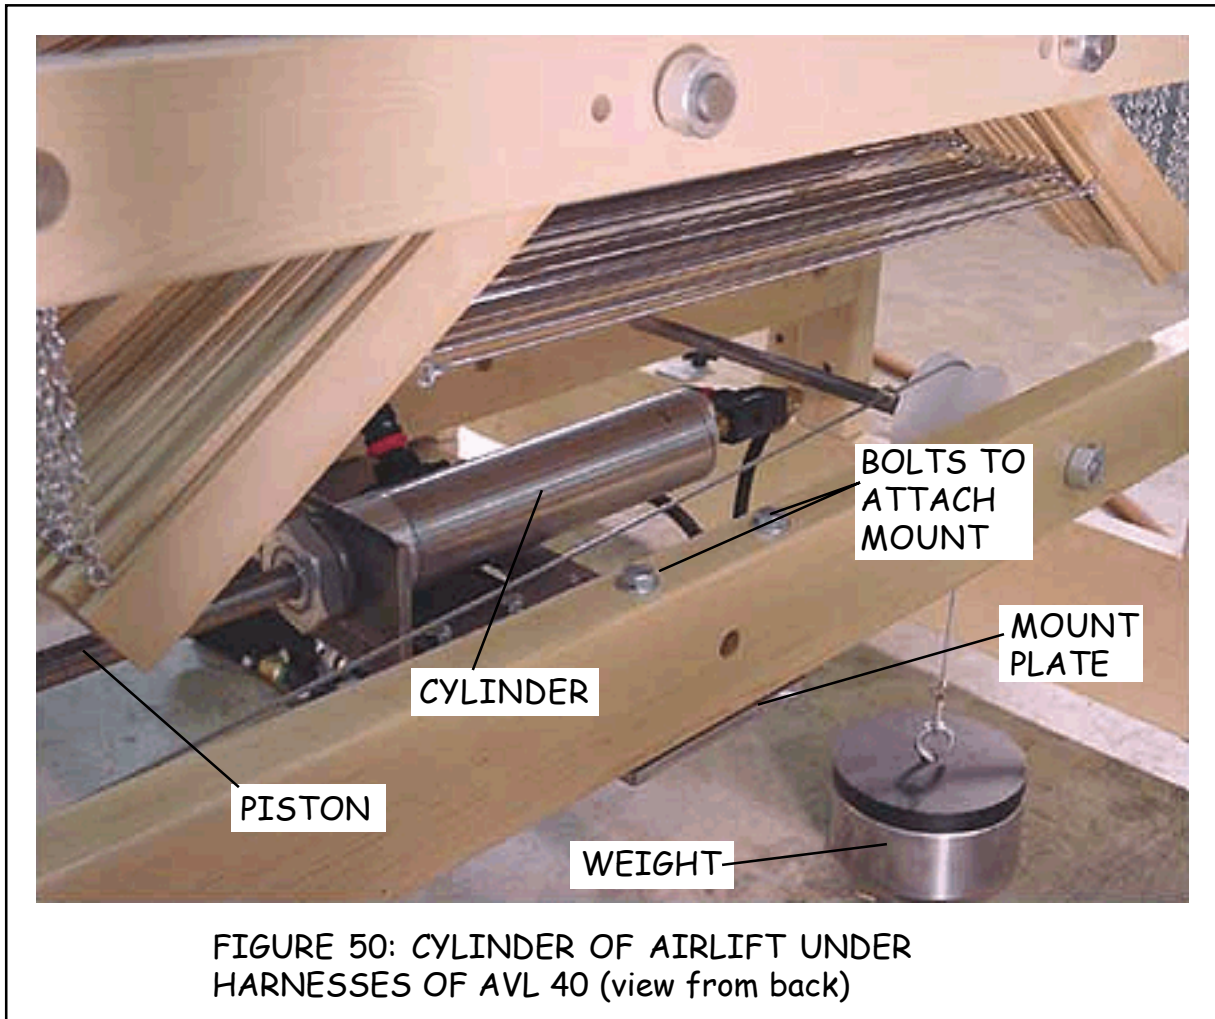

FIGURE 50: CYLINDER OF AIRLIFT UNDER HARNESES OF AVL 40 (view from back)
- 1.) Use the four 3/8" x 4" hex bolts (with two washers and a hex nut per bolt) from you hardware package to mount the Air Cylinder/Mount Plate to the bottom of the Lift Support Assembly (Figure 50).